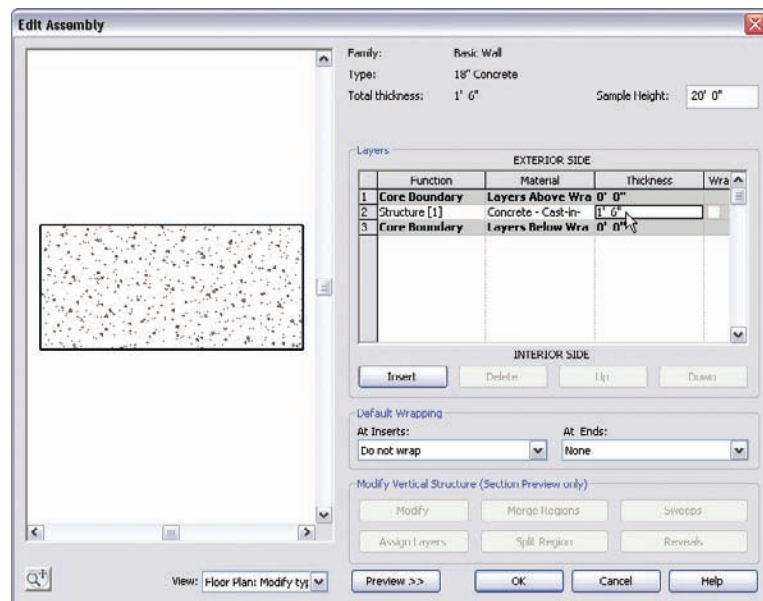

FIGURE 8.49 Changing the Material and Thickness settings
15. Change the Thickness to 1'-6" (see Figure 8.49).